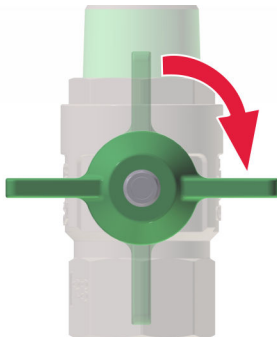

Fig. 24: Ball valves closed
- The ball valves (Fig. 24) are closed.